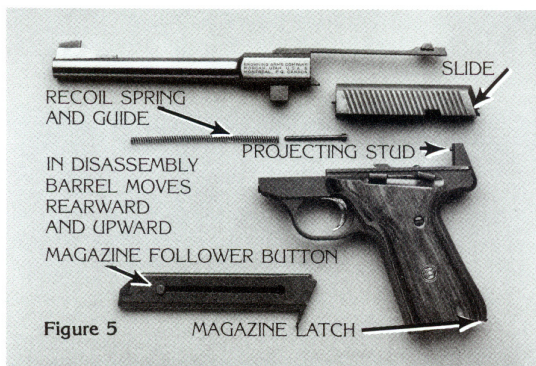

Figure 5
Depress the magazine's follower button (See Fig. 5, page 10) with the thumb of one hand, while inserting the cartridges with the other hand. Insert the loaded magazine into the pistol, being certain that the magazine is pressed completely in and is being retained by the magazine latch.
2. Replace the slide on the guide rails of the frame and push rearward until the recessed collar on the end of the recoil spring guide can be placed on the projecting stud in the rear part of the frame (Fig. 5). Then continue to push the slide as far rearward as it will go and lock in this rearward position with the stop open latch.